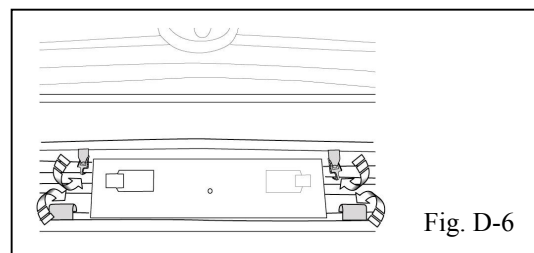

Fig. D-6
- ➡ 6. Attach two (2) elastics with “S” hooks to the top edge of intake opening. Attach four (4) plastic clips to the bottom edge of the intake opening (Fig. D-6.)